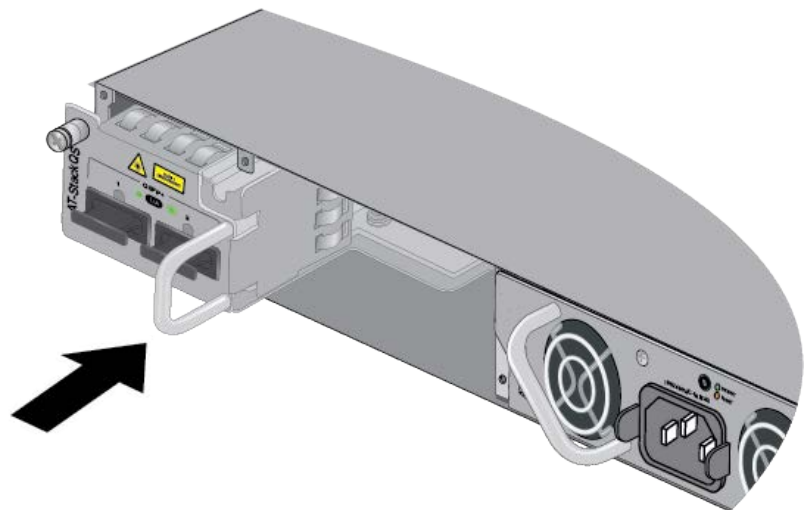

Figure 34. Seating the Card in the Switch
9. When you feel the card make contact with the connector inside the switch, gently press on the handle to seat it on the connector. Refer to Figure 34.